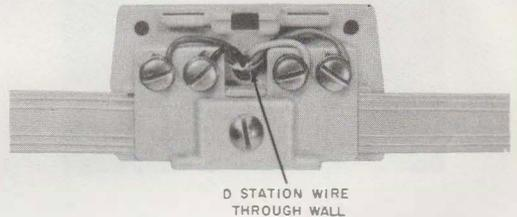
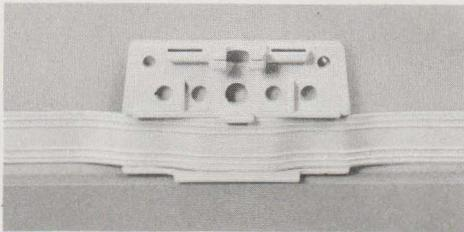

Fig. 5—Terminating Wire on No. 717 Terminal
Fig. 4—Wire in Channel on Base of No. 717 Terminal
(1) Remove snap-on cover and four screw terminal block.
(2) Select desired location, remove paper liner from back of terminal base and press base firmly against mounting surface.
(3) Place wire in channel on terminal base and press firmly (Fig. 4). Placement of wire in channel must be accurate to eliminate possible short and crosses.
(4) Place terminal block over wire channel. Align block with guide pins in base for proper seating. Exert sufficient pressure with screwdriver so mounting screw will pierce wire insulation covering screw hole. Secure block to base.
(5) Terminate D Station Wire or cord conductors on screw terminals (Fig. 5) and replace snap-on cover.